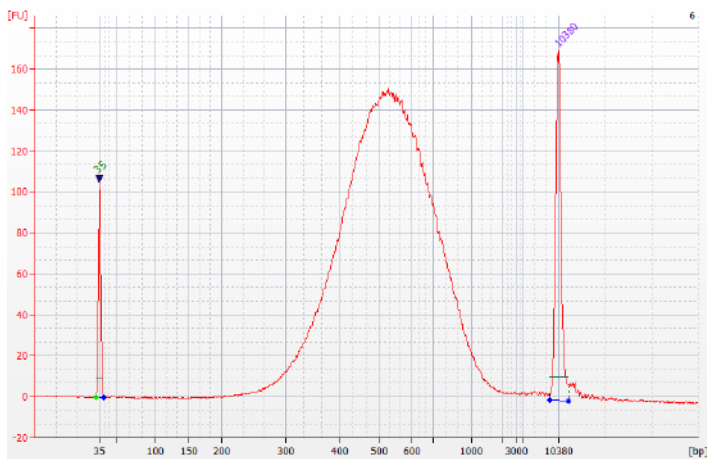

Figure 3: Typical Bioanalyzer trace for library generated using gDNA sheared to 300 bp.
1. Analyze 1 μL of the library on a Bioanalyzer High Sensitivity Chip to determine size distribution. Ideally, the peak should center on 500 bp for a 300 bp insert library and 800 bp for a 500 bp insert library. See figures 3 and 4 for typical Bioanalyzer traces of libraries generated using gDNA sheared to 300 bp and 500 bp.